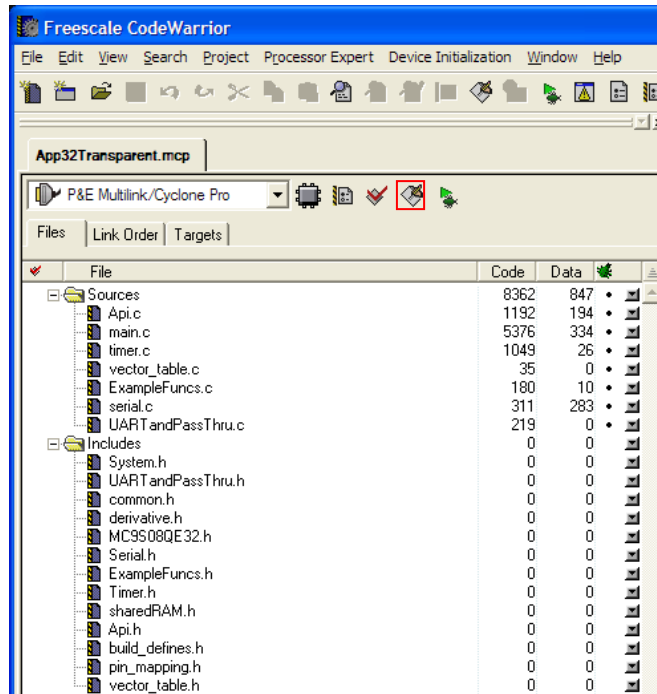

Figure 7: Open the Application File
- Next click the **Make** button or click **Project > Make** from the menu bar [Fig 7] to compile your application.